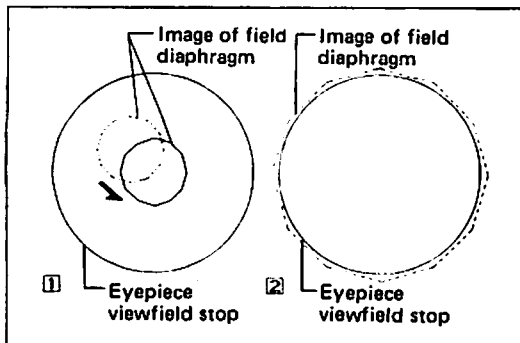

Fig. 5
- ④ Bring the field diaphragm image to the center of the field of view by means of the condenser centering screws. (Fig. 5- ①)
- ⑤ Change over to the 40X objective, and adjust the field diaphragm so that the image of the diaphragm is about the same as that of the field of view, as shown in Fig. 5- ② .